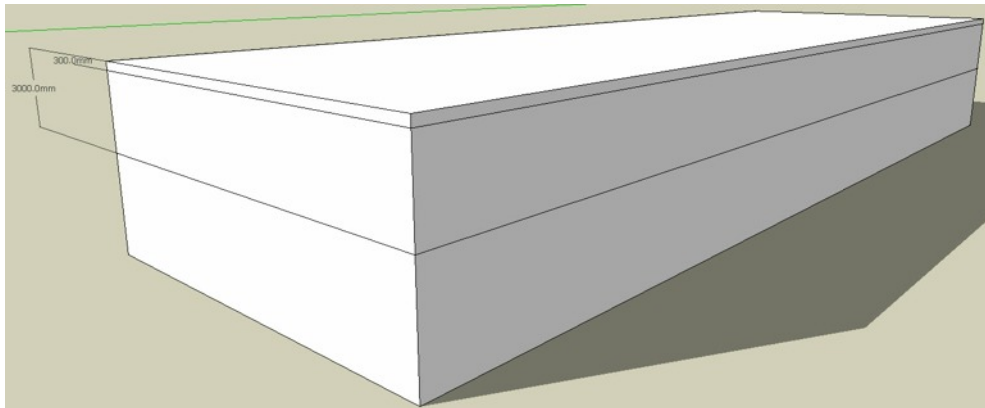

Figure 41. Copying the Roof
- **Zoom** to the corner of Building 3 as shown in Figure 41.
Use **Move** and **CTRL** to copy the roof downwards by 3000mm and 300mm in that order as shown in Figure 41.